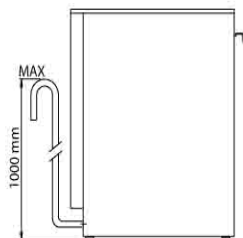

Fig. 6
- Position the outlet pipe at a height anywhere between 30" and 40" from the floor. (Fig.6)